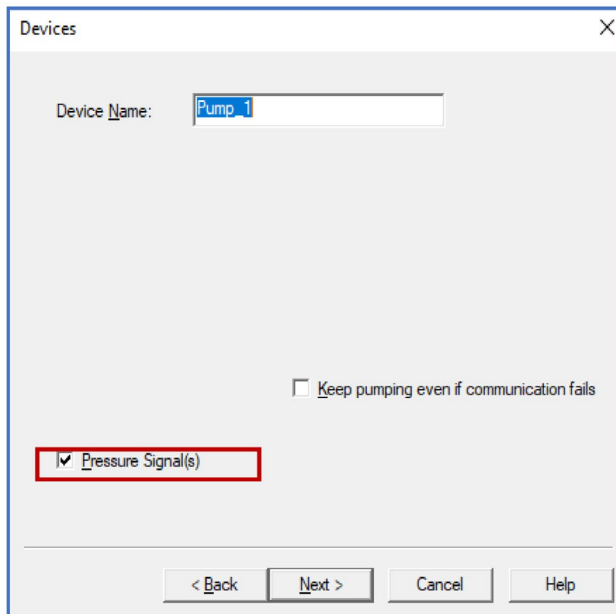

Figure 3. Adding Integrion HPIC pump wellness module and activating pressure signal monitoring
3. Select the Devices tab and click on the Pressure Signal(s) box (Figure 3).